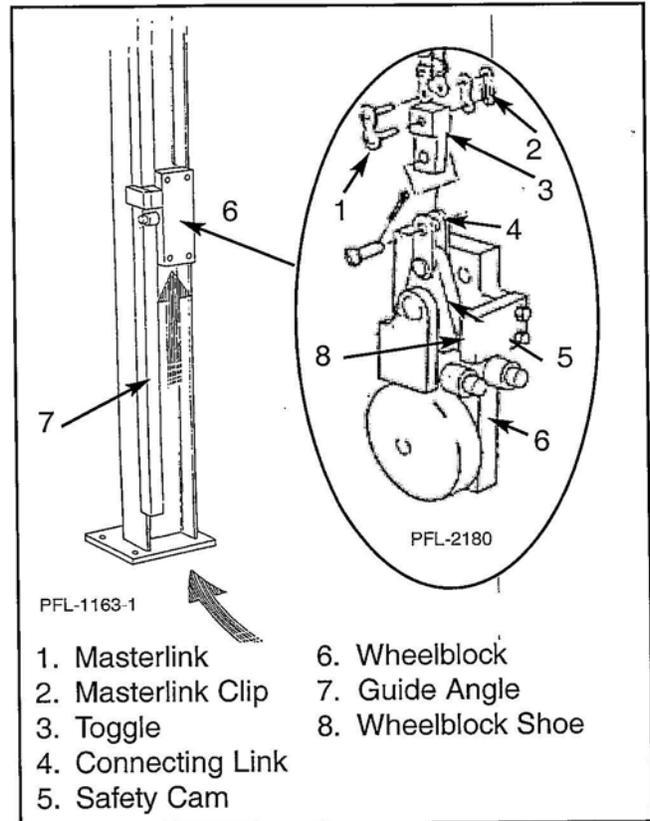

Figure 10
- Remove all 5/8-inch hex head screws from the four wheelblocks. Insert wheelblocks in the columns through the notch in the guide angle at the base of the column. See Figure 10.
Make sure masterlink clip in upper wheelblocks faces the carriage, not the inside of the columns. See Figure 10.